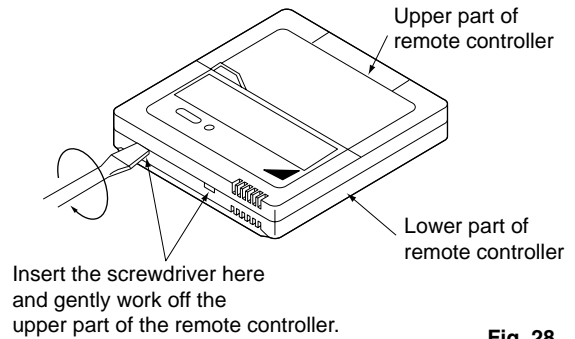

Fig. 28
- (1) Insert a  screwdriver into the recesses between the upper and lower part of remote controller, and working from the 2 positions, pry off the upper part. The remote controller PC board is attached to the upper part of the remote controller. (Refer to Fig. 28)